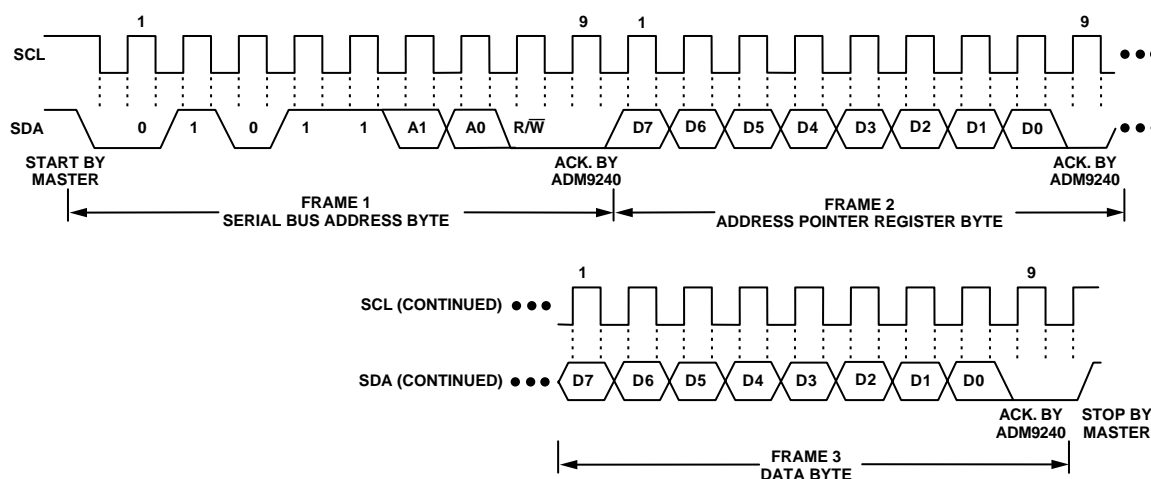

Figure 2a. Writing a Register Address to the Address Pointer Register, then Writing Data to the Selected Register
This is illustrated in Figure 2a. The device address is sent over the bus followed by R/ $\overline{W}$  set to 0. This is followed by two data bytes. The first data byte is the address of the internal data register to be written to, which is stored in the Address Pointer Register. The second data byte is the data to be written to the internal data register.
2. In Figures 2a to 2c, the serial bus address is shown as the default value 01011(A1)(A0), where A1 and A0 are hardwired to either Logic 0 or Logic 1.